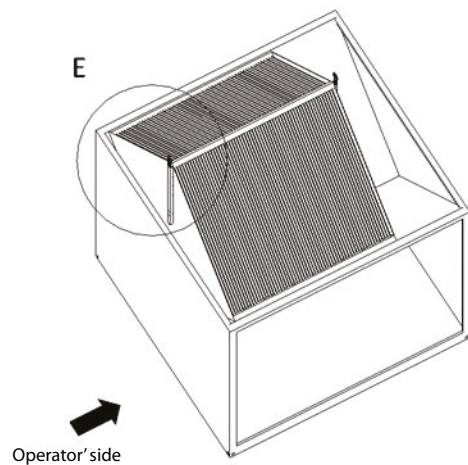

Figure 9 – Centring of recuperator
- The correct position of the recuperator – the maximum distance of the front surface of the recuperator suspension, see Figure 9, Detail E